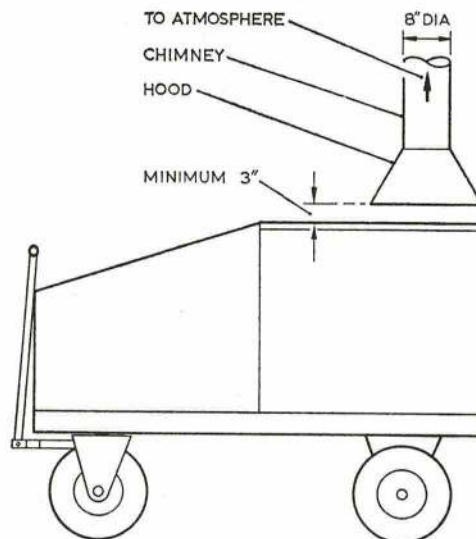

Fig. 12. ARRANGEMENT OF CHIMNEY
34. When the plant is operated it must be level and on firm ground, preferably in the open and well clear of inflammable stores. If the plant is to be used in a building, there must be free access of air to the combustion chamber, and provision must be made for the removal of the exhaust gases to the outside of the building. If a chimney is used for this purpose, it should be at least 8 in. diameter and equipped with a hood (Fig. 12).